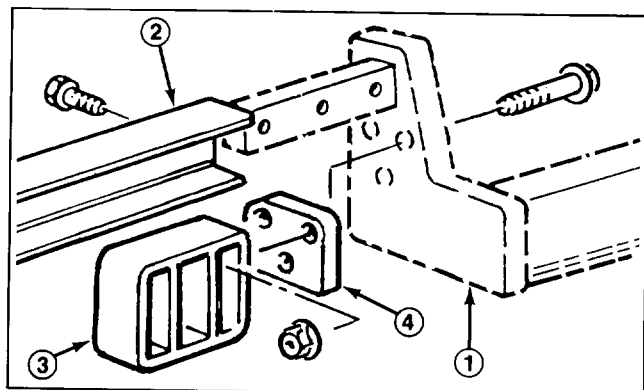

Figure 2
2. Mount a rear cradle to each lift arm with (3) 3/8 - 16 x 2" capscrews, spacer and flange nuts as shown in Figure 2. Torque fasteners to 20-25 ft-lb.
3. Slide carrier frame onto lift arms aligning mounting holes. Secure each side of carrier frame to lift arms with (3) 1/2 - 13 x 1-1/2" lg. capscrews. Torque capscrews to 70-80 ft-lb. (Fig. 2).